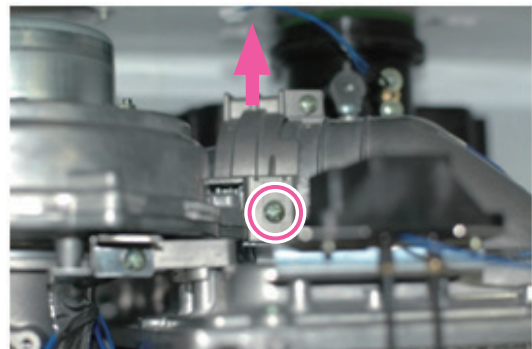

Figure 4
4. Remove the mounting screw from the fan assembly as shown in Figure 4 below.